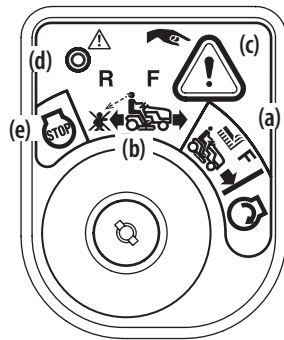

Figure 27
2. Turn the ignition key from the NORMAL MOWING (a) position to the REVERSE CAUTION MODE (b) position of the ignition switch. See Figure 27.
3. Press and hold the REVERSE CAUTION MODE BUTTON (c) at the top, right corner of the ignition module for 3 seconds. The red indicator light (d) at the top, left corner of the ignition module will be ON while activated. See Figure 27.
4. Once activated (indicator light ON), the tractor can be driven in reverse with the PTO (Blade Engage) Lever in the engaged (ON) position.